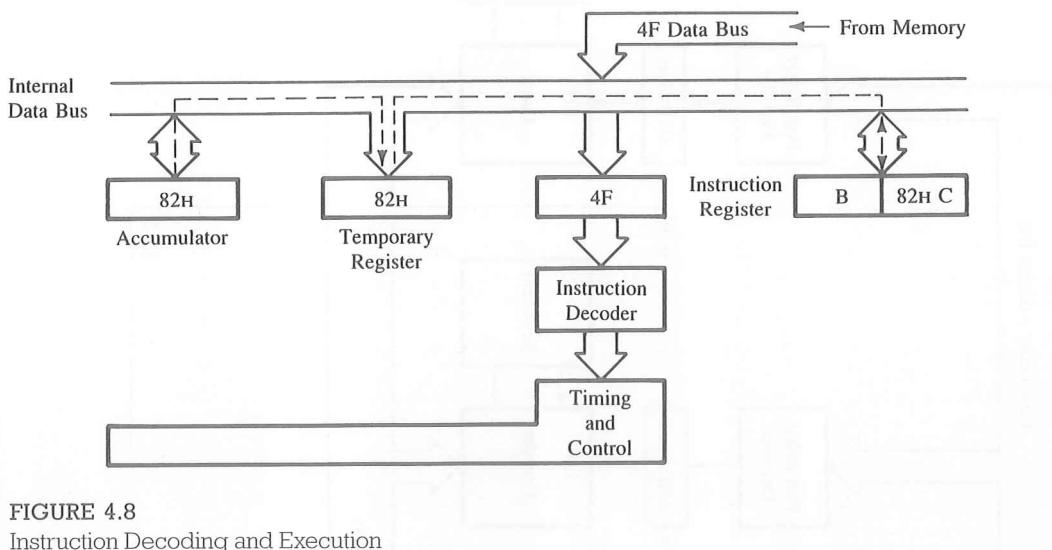

FIGURE 4.8
1. Places the contents of the data bus (4FH) in the instruction register (Figure 4.8) and decodes the instruction.